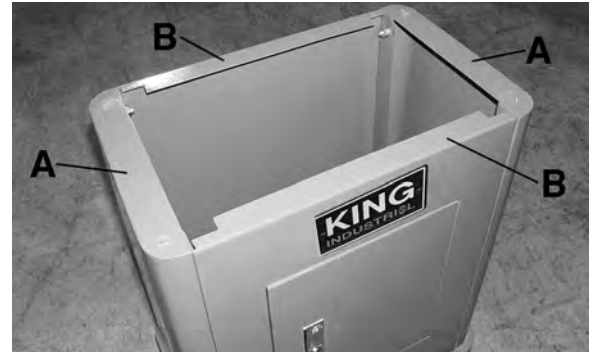

Figure 5
Assemble the 2 side panels (A) Fig.5 and 2 front/rear panels (B) of the cabinet stand together using 8 hex. bolts, 16 washers, 8 spring washers and 8 hex. nuts.